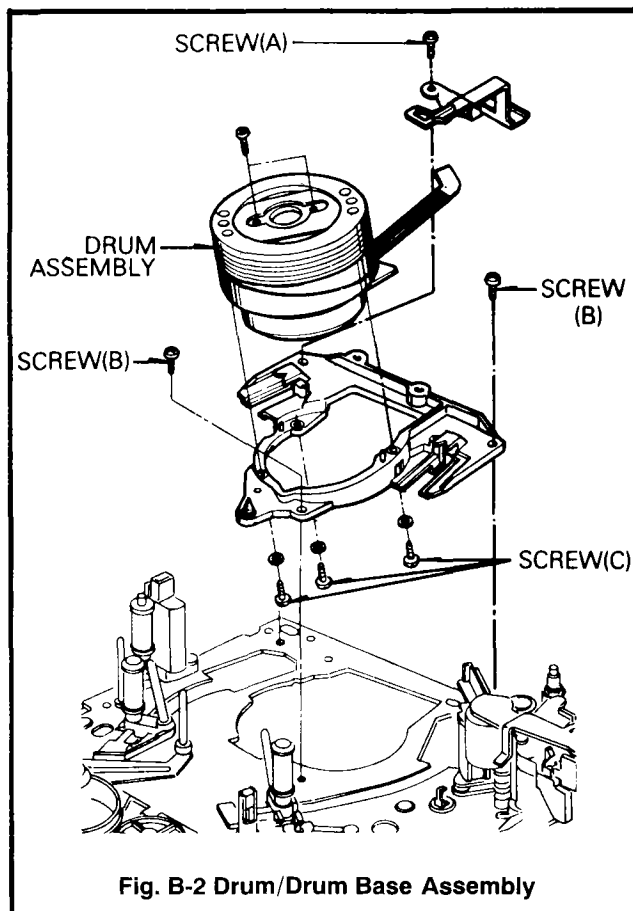

Fig. B-2 Drum/Drum Base Assembly
2. Drum and Drum Base Assembly (Fig. B-2)